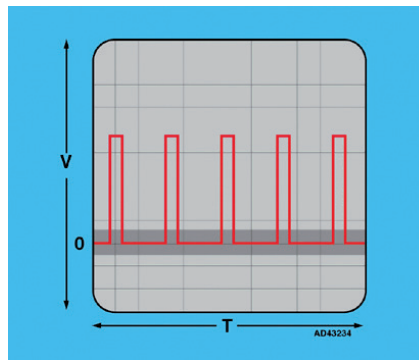

Fig 29 - Ignition amplifier wave form
- Compare scope trace with wave form reference *Fig 29*.